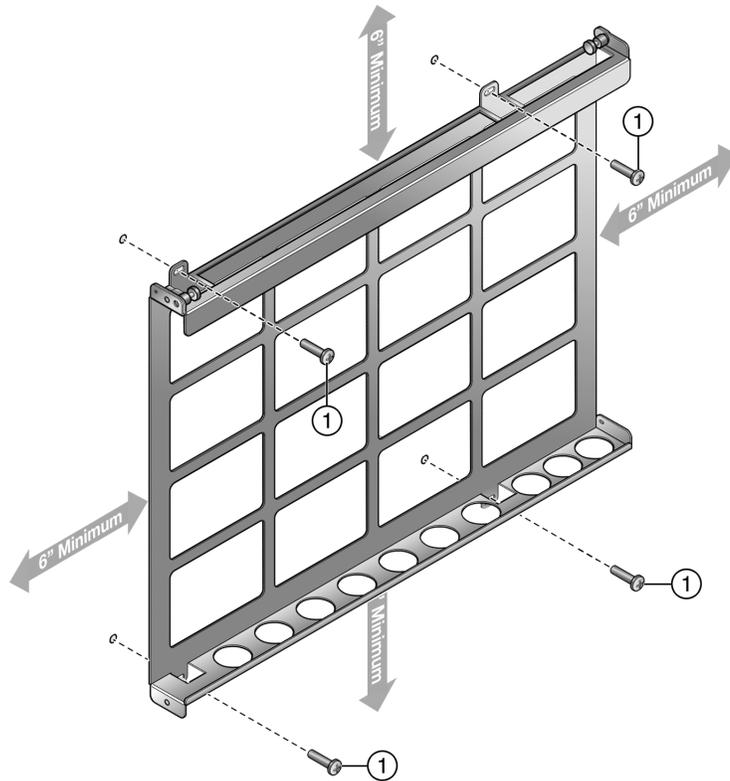

Figure 33: Securing the Wall Mounting Bracket to a Wall
- 1 Using four customer-supplied screws and wall anchors, secure the mounting bracket to the wall. See Figure 33: Securing the Wall Mounting Bracket to a Wall on page 73.
You must secure the mounting bracket to the wall in the orientation shown in Figure 33: Securing the Wall Mounting Bracket to a Wall on page 73. No other orientation is supported.